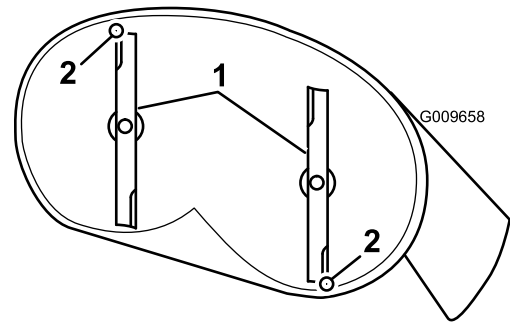

Figure 52
5. Measure from the tip of the front blade to the flat surface and the tip of the rear blade to the flat surface (Figure 52). If the front blade tip is not 1/16-5/16 inch (1.6-7.9 mm) lower than the rear blade tip, adjust the front locknut.
4. Carefully rotate the blades so they are facing front to rear (Figure 52).
8. After adjustment, check the front-to-rear slope again. Continue adjusting the nut until the front blade tip is 1/16-5/16 inch (1.6-7.9 mm) lower than the rear blade tip (Figure 52).